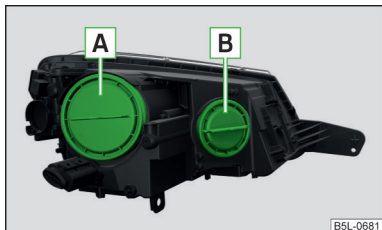

Fig. 205
**Bulb arrangement** » Fig. 205
- Turn the respective protective cap » Fig. 205 on page 200 counter-clockwise and remove.
- Insert the respective protective cap » Fig. 205 on page 200 and rotate it clockwise until it stops.